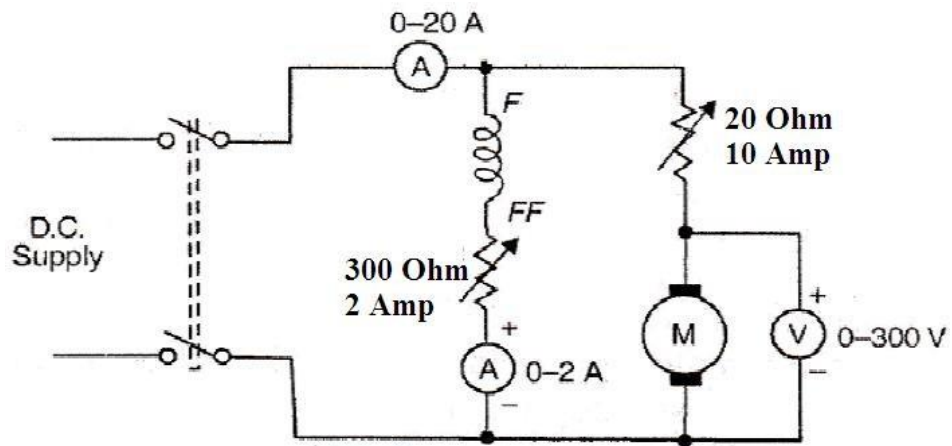

Fig. 1 Circuit for Study of Speed Control of D.C. Shunt Motor
1. Connect the circuit as shown in Fig. 1.